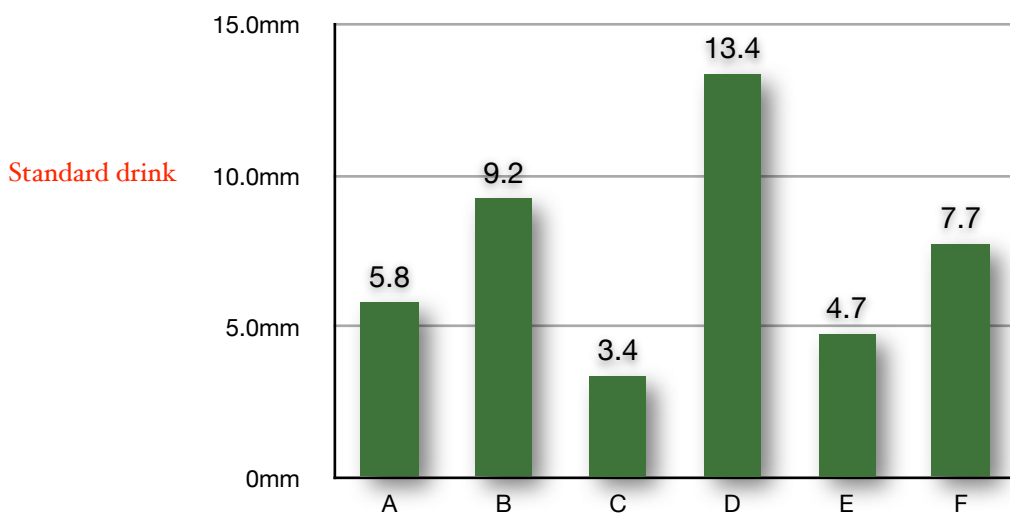

Figure 4 Average weight loss over 58 hours expressed as mm of water Part 1
Figure 4 presents the same information shown as mm of water using a conversion factor of 0.0178 to convert g of weight loss into mm depth of water. The worst mulch lost the equivalent of 13.4mm. The recommended Standard Drink (SD) for improved sandy soil in Perth is 10mm indicating that this mulch would absorb all 10mm and then lose it all again. None would have reached the root zone in the soil. The best performing mulch lost only 3.4mm leaving the remainder of the SD available to plants for transpiration.